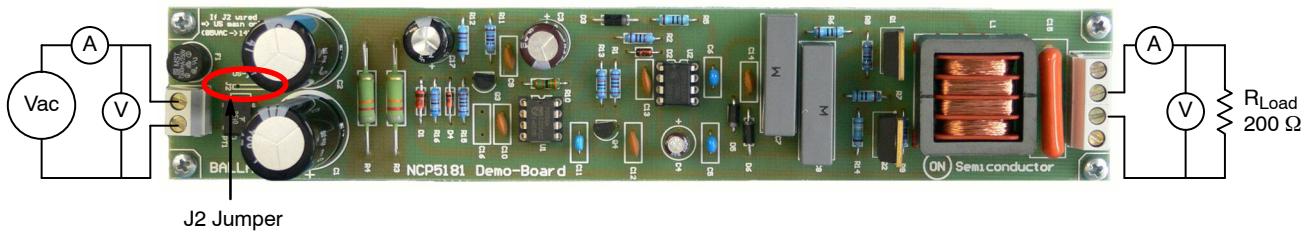

Figure 7. Test Setup Connection
2. Connect the test setup as shown in Figure 7: